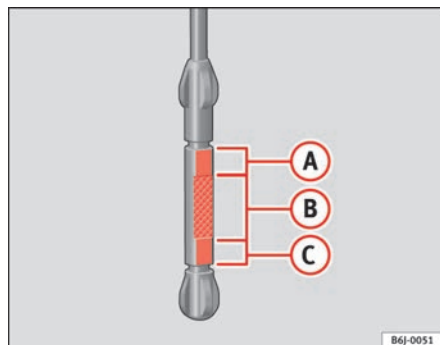

Fig. 116 Engine oil dipstick
- Then pull it out once more and check the oil level ⇒ fig. 116. Top up with engine oil if necessary.